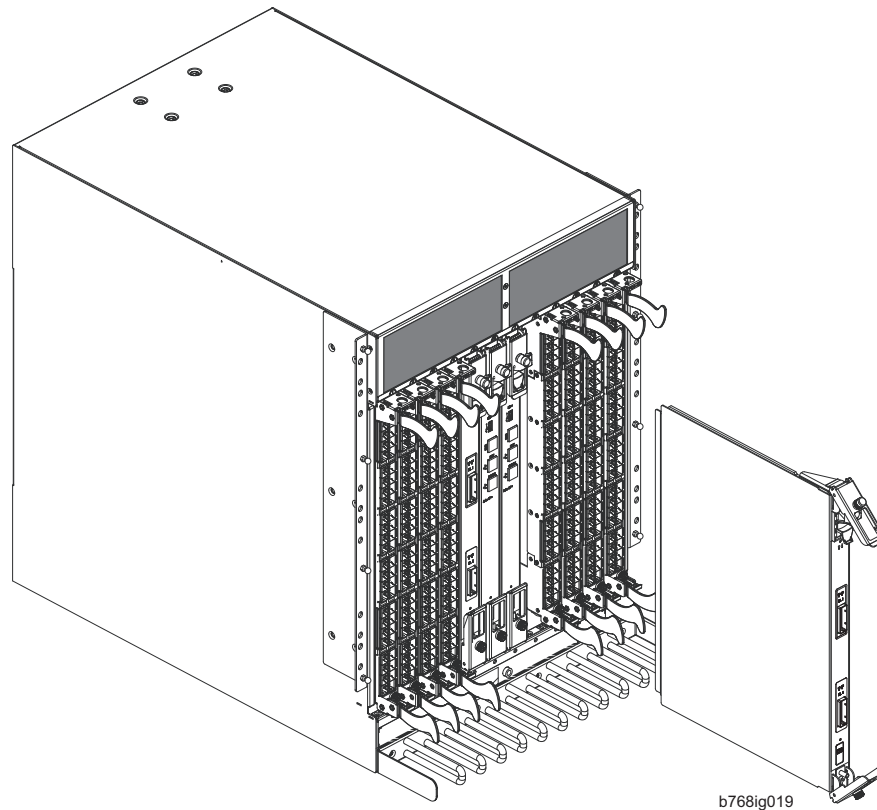

Figure 34. Removing the core switch blade
This section describes how to remove and install a core switch blade. Each SAN768B has two core switch blades: one in slot 5 and one in slot 8. Note that the blade in Figure 34 on page 83 is shown with EMI plugs installed.
2. Power off the blade by sliding the slider switch in the top ejector down to the off position (see Figure 34). Do not eject the blade until the power LED has gone off and you have completed the next two steps.
5. Open both ejectors simultaneously to approximately 45 degrees and pull the core switch blade out of the chassis (see Figure 34).